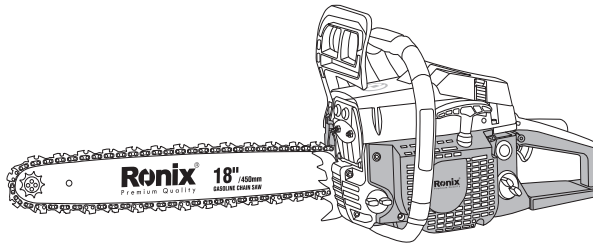

Fig. 4
- 1- Remove the bar lube reservoir cap (Fig. 4)